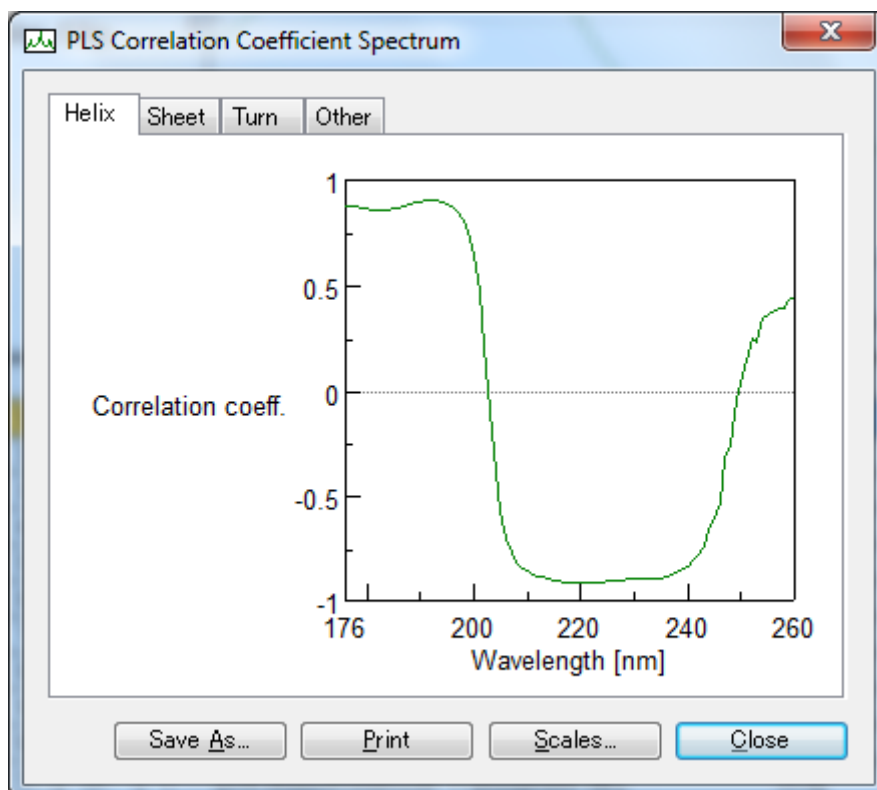

Figure 2.10 [PLS Correlation Coefficient Spectrum] dialog box
- (1) Select [PLS] - [Correlation Coefficient Spectrum...] from the [Model] menu. The dialog box in Fig. 2.10 is displayed.